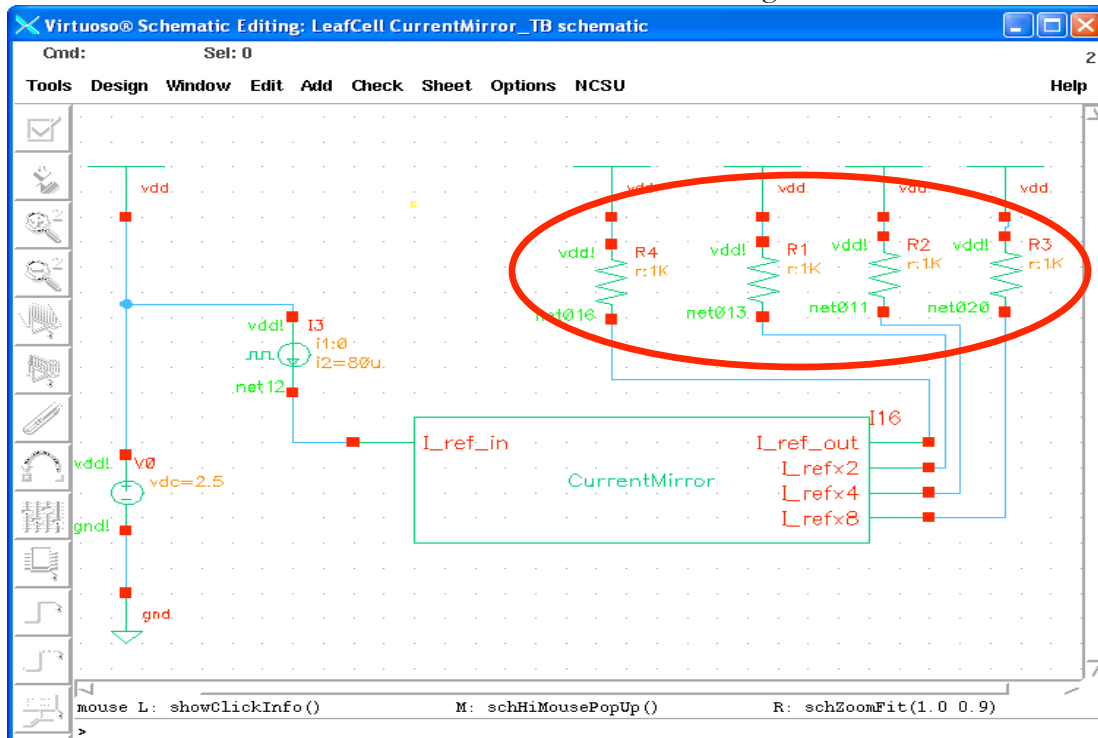

Figure 123: Adding in the load resistors.
2. Add the 1K resistor loads to the current mirror as in Figure 123.